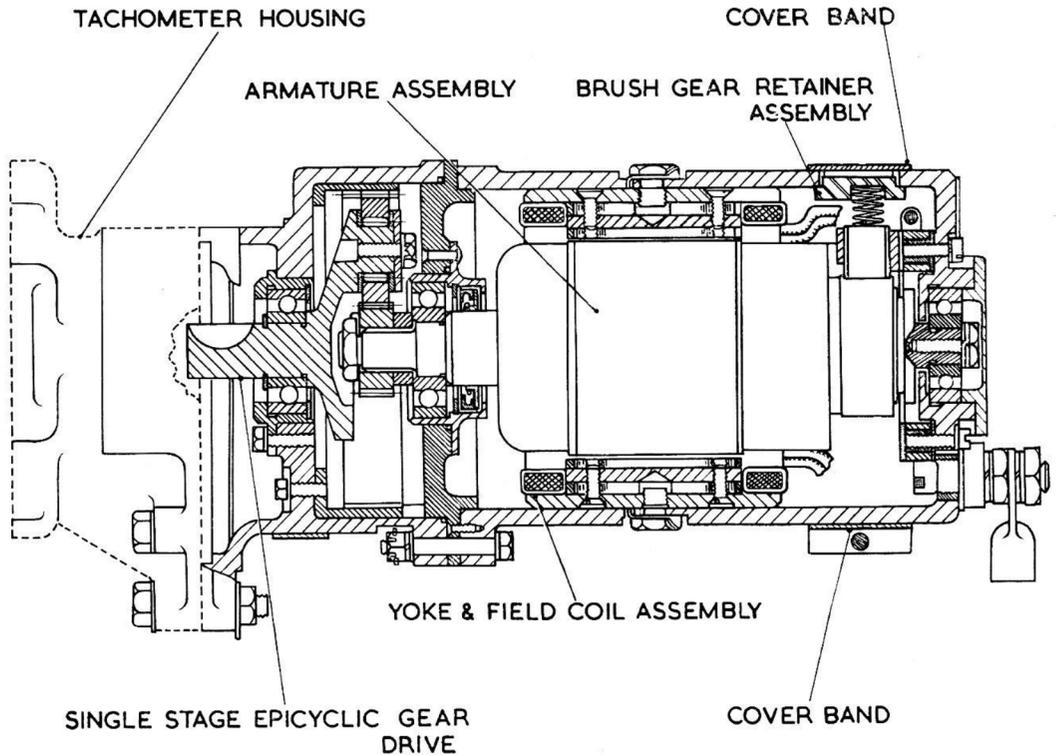

Fig. 3. Sectional view of starter
4. The driving end frame and the motor housing each include a ballrace which supports both ends of the armature (*fig. 3*).
7. Located in the motor housing between the brushgear assembly and the D.E. frame is the yoke and field coil assembly (*fig. 3*). The yoke is manufactured from low carbon mild steel, and the pole shoes contained therein from Lohys iron laminations, held together by a flat rivet of S.I. steel.
10. The commutator end of the armature shaft is located in a ballrace, which is secured by an end cap fitted to the motor housing. A ballrace and oil seal, contained within the driving end frame, support the shaft at the driving end, while the seal locates on an adjacent ground diameter, to prevent any ingress of oil to the armature (fig. 3).